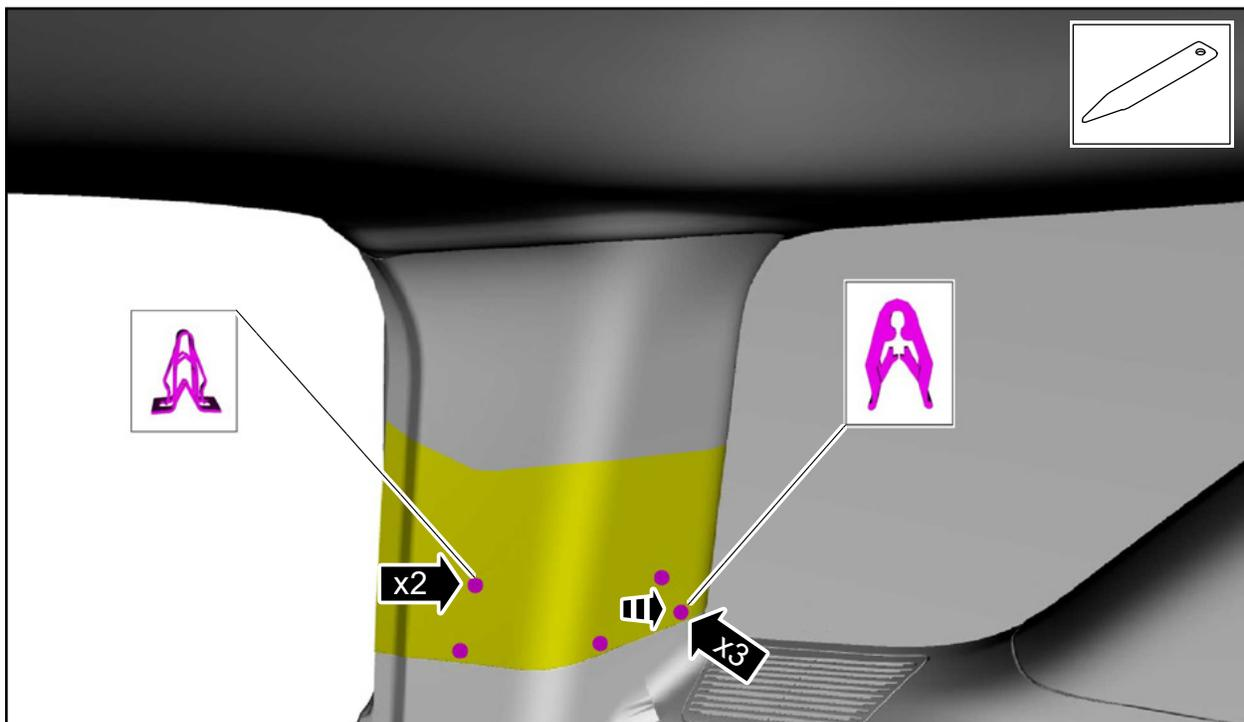

FIGURE 11
11. Release the LH D-pillar trim panel lower clips. See Figure 11.